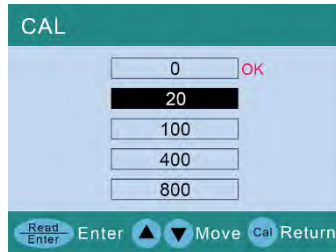

Figure 8.2
- f) Press **MEAS ENTER** to start 0 NTU calibration. After calibration is done, the instrument will return to the calibration menu (see Figure 8.2). The "OK" sign indicates that the 0 NTU has been calibrated and prompt to calibrate 20 NTU.